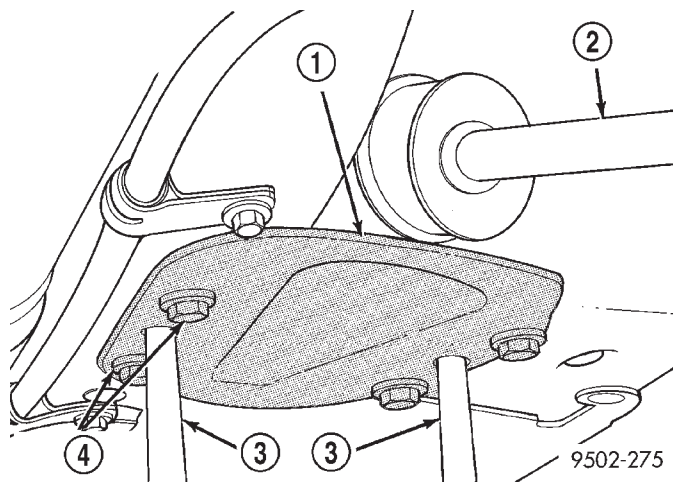

Fig. 39 Trailing Link Hanger Bracket Installation
(4) Install trailing link hanger bracket on vehicle and loosely install the 4 attaching bolts (Fig. 39). Then install 2 drift pins of appropriate size in positioning holes on hanger bracket and into locating holes in body (Fig. 39). With hanger bracket correctly positioned on vehicle tighten the 4 hanger bracket mounting bolts to a torque of 34 N·m (25 ft. lbs.).